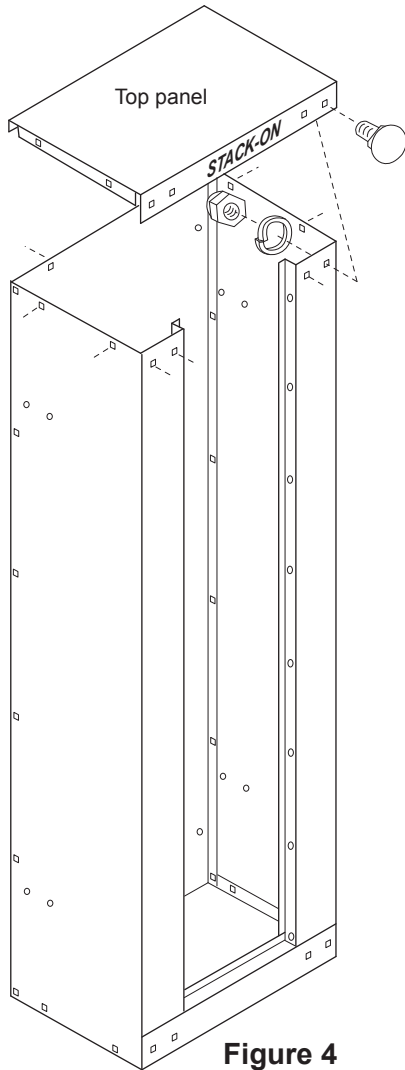

Figure 4
With the front and back flanges on the outside of the cabinet and the side flanges on the inside of the cabinet, assemble with (10) carriage bolts, lock washers and nylon locking nuts. (See figure 4)